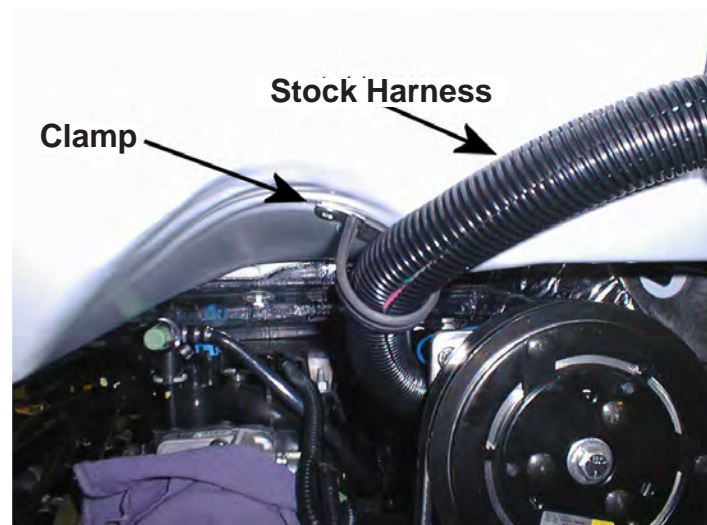

Figure 22. Hold Main Wire Harness Away from CDS Clutch
3. Use the provided 1-½ cushion clamp and self-tapping screw to hold the main wire harness away from the CDS clutch (see Figure 22).